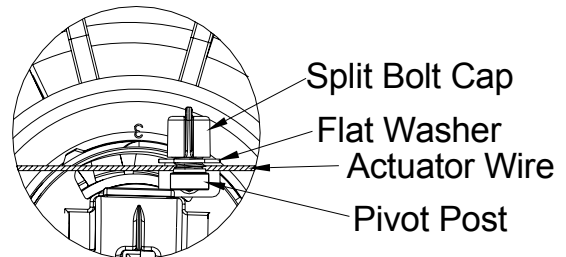

Figure 67. 13057 Clamp Installed
2. Using the first pan away from the actuator, push the inner cone to the open position and clamp the wire with a flat washer and a split bolt cap to the pivot post, **see figure 67.**
Mid-Line Control Units are available for the Rev. 8 & 12 Feeders. The Mid-Line Controls are shown in **Figure 67**.